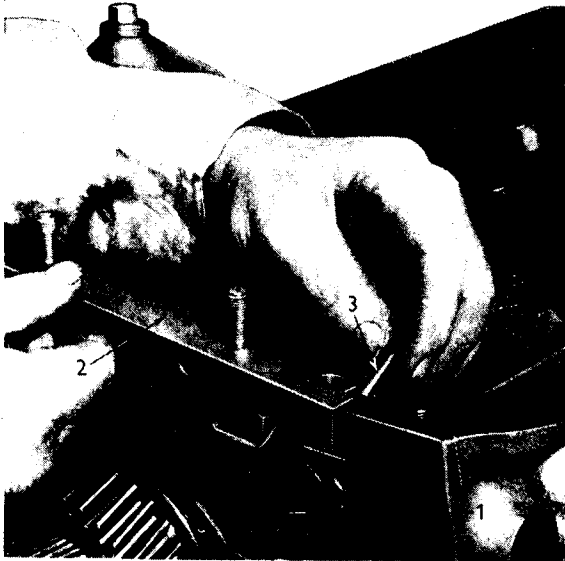

Fig. H.3. Fitting Main Bearing Bridge Piece Oil Seal.
11. Refit the front and rear bridge pieces to the cylinder block (Fig. H.3). Check that the end faces of the bridge pieces are flush with the end faces of the cylinder block (Fig. H.4).